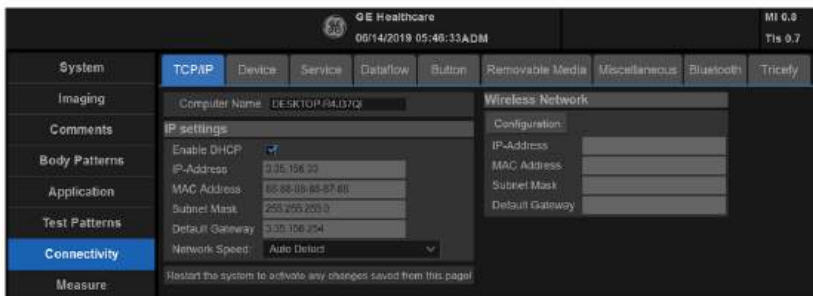

Figure 8-2. Record IP Setting
- If “Enable DHCP” is not selected, record all the information about IP setting. Refer to a) in Figure 8-2 on page 8-12.
- If “Enable DHCP” is selected, only record Computer name and Network Speed. Refer to b) in Figure 8-2 on page 8-12.